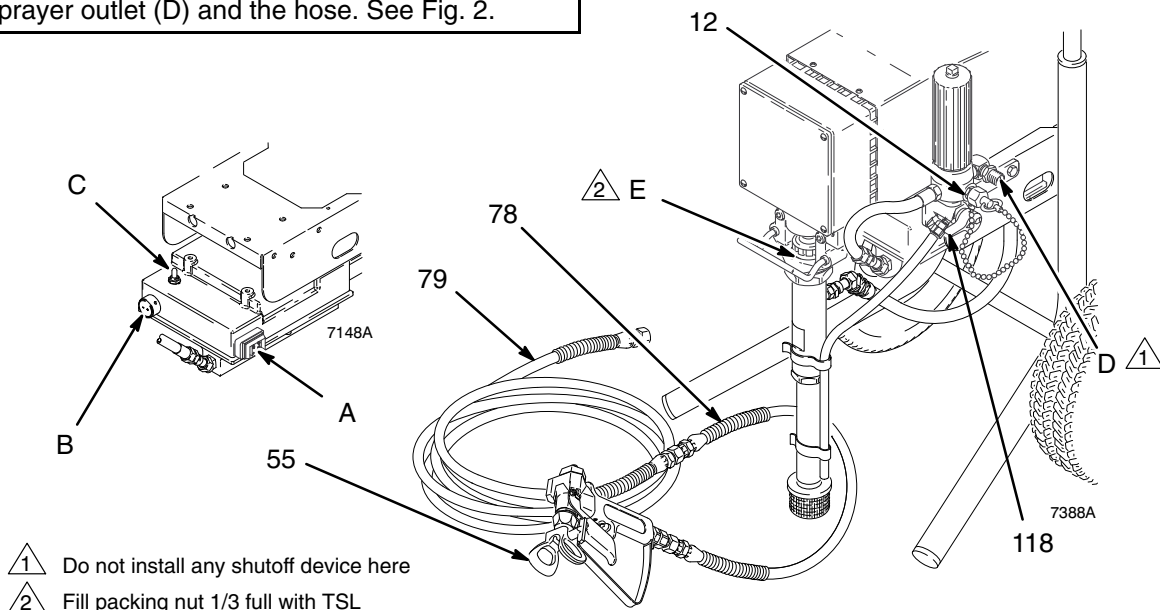

Fig. 2
3. Never install any shutoff device between the sprayer outlet (D) and the hose. See Fig. 2.
1. Connect gun, 3 ft. hose (78) and 50 ft. hose (79). Don't install spray tip yet.
2. Two gun hookup. Remove cap (12) from 1/4 npsm(m) secondary hose outlet and attach minimum 50 ft. long hose. For more flexible gun movement, install 3/16 in. ID, 3 ft. whip hose between main hose and gun.
3. Fill packing nut/wet-cup (E) 1/3 full with Graco Throat Seal Liquid (TSL), supplied.
4. Check electrical service. Be sure electrical service is 120 Vac, 60 Hz, 20 A. Use properly grounded outlet. Do not remove grounding prong of power supply cord or of any extension cords used. Do not use an adapter. Extension cords must have 3 wires of minimum 12 gauge size. Long extension cords reduce sprayer performance. If 20 amp service is not available, set 15/20 amp switch (C) to 15 amp to avoid nuisance tripping of circuit breakers.
5. With ON/OFF switch (A) set to OFF, plug cord into a grounded electrical outlet located at least 20 ft. (6 m) away from spray area. See Fig. 2
Always use this procedure to help ensure sprayer is ready to operate and that you start it safely. See Fig. 2